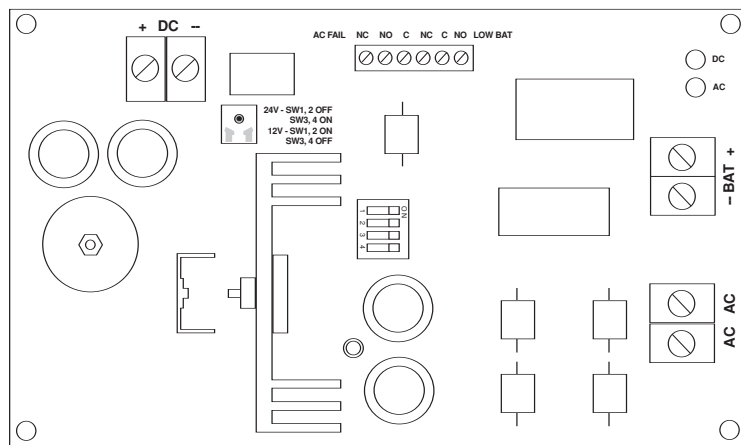

Fig. 1
5. Connect devices to be powered to terminals marked [+ DC -] (Fig. 1).
- For Access Control applications, batteries are optional. When batteries are not used a loss of AC will result in the loss of output voltage. When the use of stand-by batteries is desired, they must be lead acid or gel type. Connect battery to terminals marked [- BAT +] (Fig. 1) (battery leads included). Use two (2) 12VDC batteries connected in series for 24VDC operation.
- Connect supervisory trouble reporting devices to outputs marked [LOW BAT, AC FAIL] (Fig. 1) supervisory relays marked [NC, NO, C,]. Use 22 AWG to 18 AWG for AC Fail & Low Battery reporting.